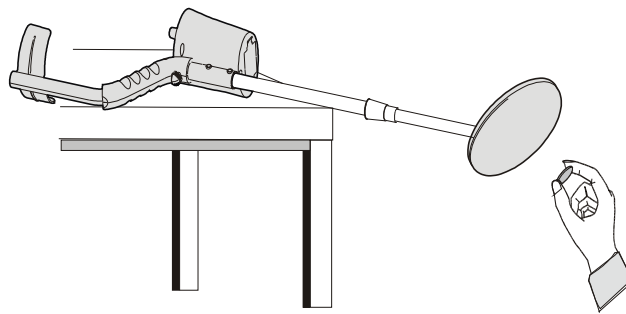

Figure.9
- Place the detector on a wooden or plastic table. Let the search coil exceeds the table edge about more than 5 inches (15cm). (Fig.9)